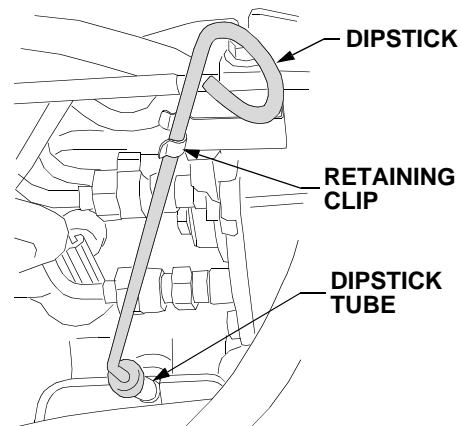

Figure 49
- Check the oil level only while the engine is stopped and the tractor is level. Clean the area around the oil level dipstick to prevent debris from entering the crankcase. See Figure 49.